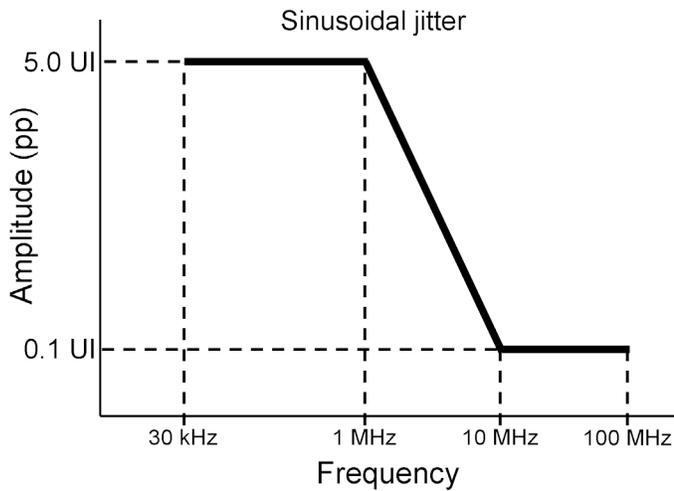

FIGURE 8. SJ template for probing CR bandwidth and jitter filtering.
To probe the CR bandwidth,  $BW_{CR}$ , apply SJ (sinusoidal jitter) of varying frequencies and amplitudes to a test pattern with plenty of transitions like PRBS7 or PRBS9. The idea is to stress the CR bandwidth and its ability to filter jitter independent of its ability to lock. Start with low frequency,  $f_{SJ} \ll BW_{CR}$  and high amplitude SJ, like that shown in Figure 8. Increase the amplitude until the BER ramps up, call that amplitude  $A_{crit}(f_{SJ})$ . Continue across the template, making careful measurements through the CR roll off.
- SJ, usually across a template like that shown in Figure 8